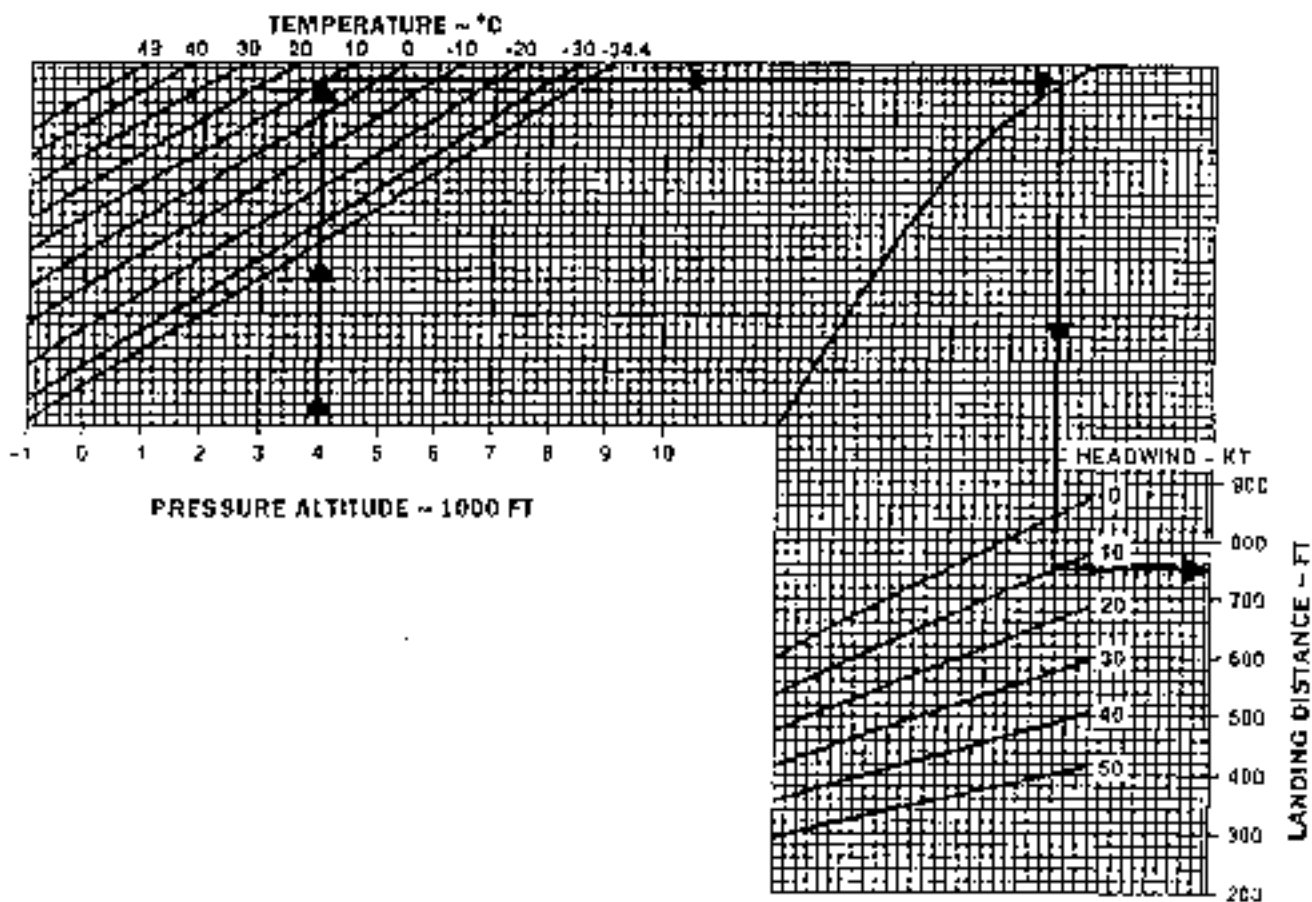

Figure 1.1.18 Category "A" - Landing Distance from 50 ft Height to Stop
The landing distances shown in Figure 1.1.18 reflect the one-engine inoperative landings to a hard surfaced runway.
1. Enter Figure 1.1.18 at 4000 feet pressure altitude, and using the temperature and headwind component (Figure 1.1.13), read the resultant landing distance required.